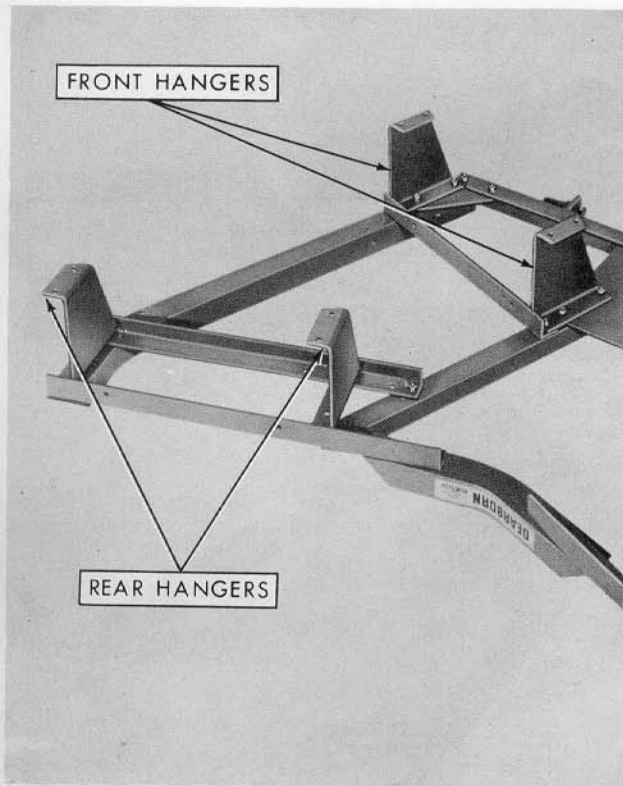

Figure 3
2. Place the main frame on the floor or ground upside down and bolt the eight disc gang hangers in place with the straight edge of each hanger to the rear, as shown in Figure 3. The front hangers should face in and the rear hangers out when properly installed.